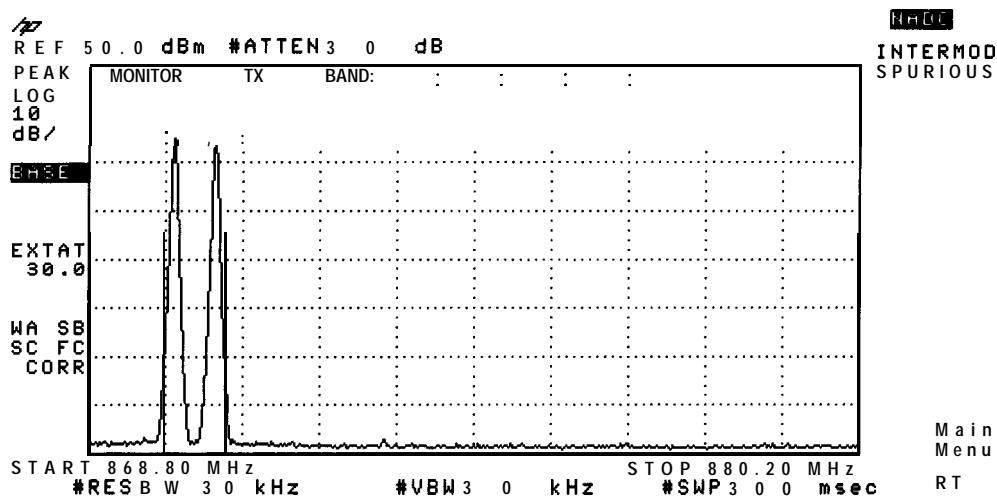

Figure 2-26. Screen Display of the Two Carriers
1. Intermodulation spurious emissions measurement is meant to measure the intermodulation products caused by two carriers. You should ensure that there are two carriers of equal amplitude, spaced at least 600 kHz apart. Connect the equipment as shown in Figure 2-25. (See Figure 2-26 for an example of the spectrum analyzer display of two carriers.)